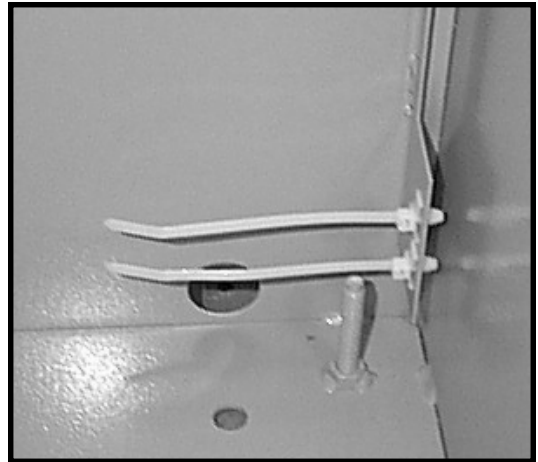

Figure 1
5. Snap in a Panduit cable tie into each of the two lower holes located in the bracket welded to the back, right side of the cabinet. (See Figure 1)